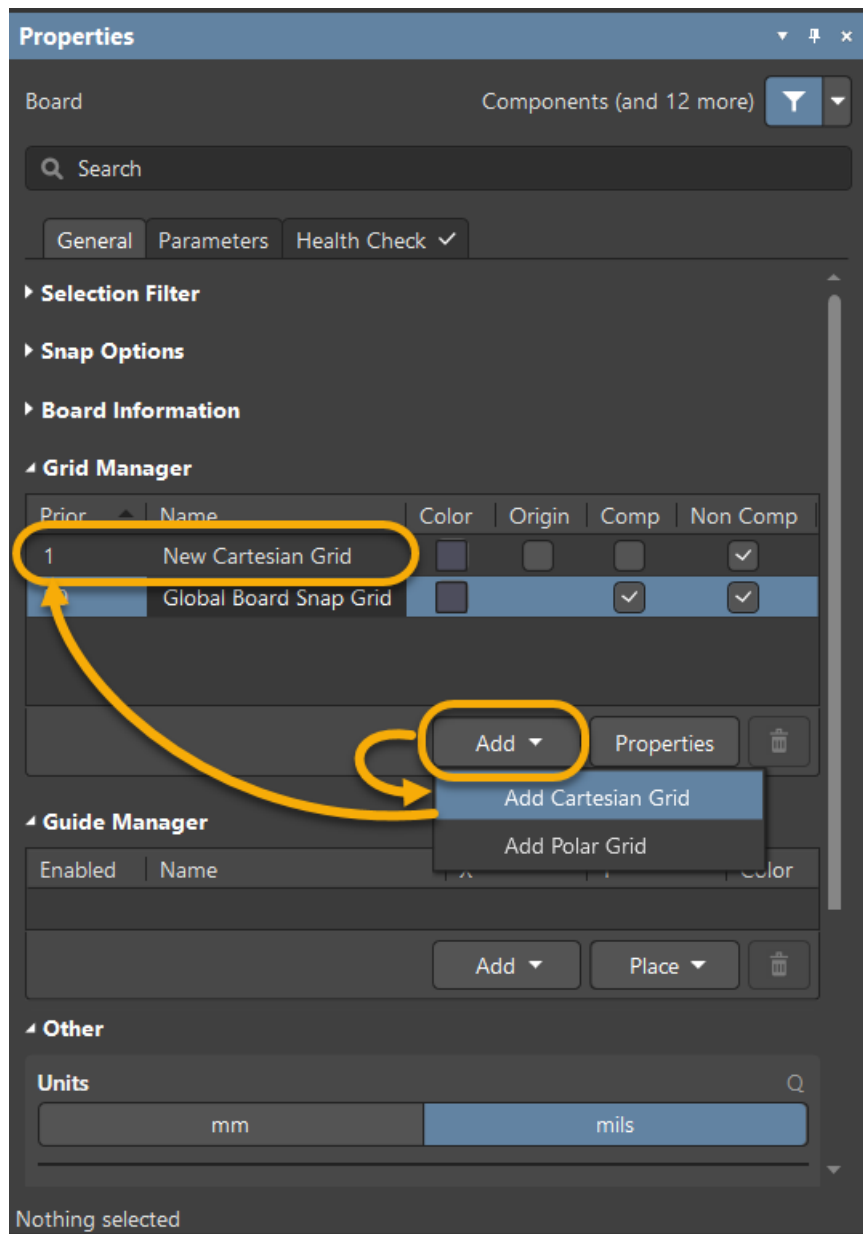

Figure 5. New grid added in the Grid Manager
22. A grid named *New Cartesian Grid* will be added to the list in the *Grid Manager*, as shown in Figure 5 below.